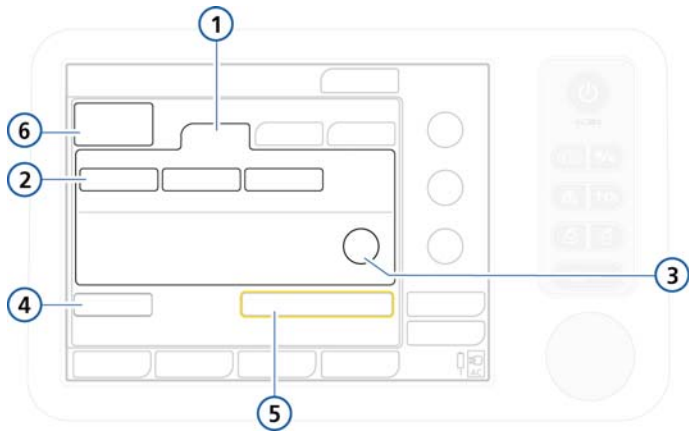

Figure 5-2. Neonatal patient group (in Standby window)
1. In the Standby window, touch the **Neonatal** tab. See Figure 5-2.
In Figure 5-2, they are labeled **Neonatal 1**, **Neonatal 2**, and **Neonatal 3**. (The button names can be changed during configuration.) These settings are defined in configuration (Section I.6). Quick setups allow you to specify default options, including the ventilation mode to use.